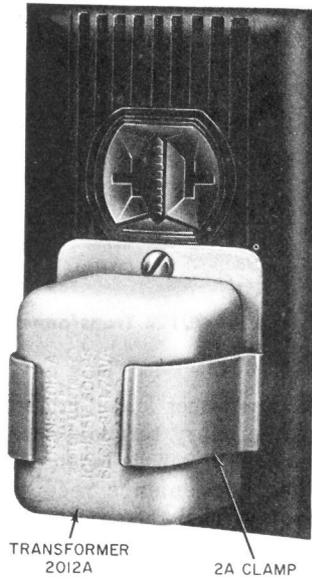

Fig. 5—2A Clamp
**4.05** A 2A clamp may be used to secure the 2012-type transformer to a standard electrical service outlet (Fig. 5) in those locations where the transformer is subject to being accidentally dislodged from the receptacle.
**10.02** The transformer is self-protecting and is provided with primary terminals in the form of parallel blades which serve as the mounting device. The furnished clamp must be used to hold the transformer securely in the receptacle. The KS-20426L3 transformer mounts in the same manner as the 2012A transformer as shown in (Fig. 5).